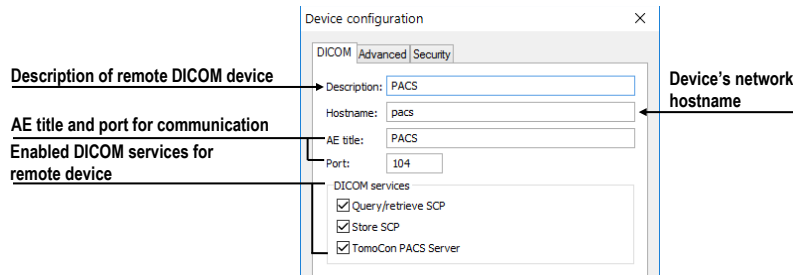
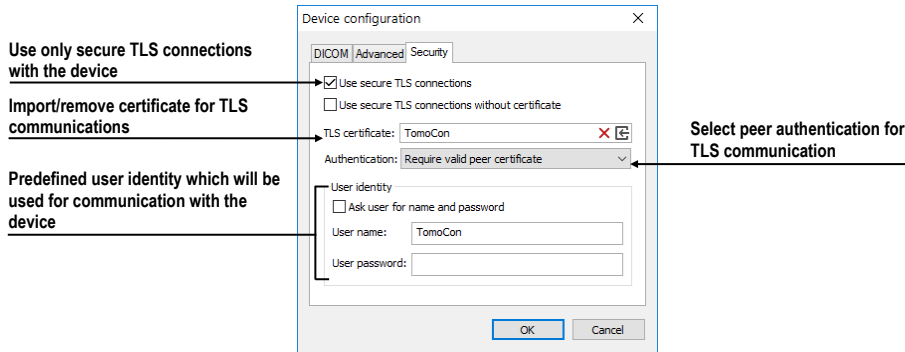

Figure 85 – Device configuration dialog – DICOM tab
Figure 87 – Device configuration dialog – Security tab
- To add a new DICOM device as a separate item, click **Add device** button. The **Device configuration** dialog (see Figure 85 - Figure 87) will be displayed to enter the required informations about a device.
- To add a new DICOM device into a previously defined group, select the group in the list and click **Add device**. The **Device configuration** dialog (see Figure 85 - Figure 87) is displayed to enter the required information about a device.
- To modify a group or a DICOM device, click **Configure...**. The **Device configuration** dialog is displayed where the information concerning a group or a device can be modified (see Figure 85 - Figure 87).